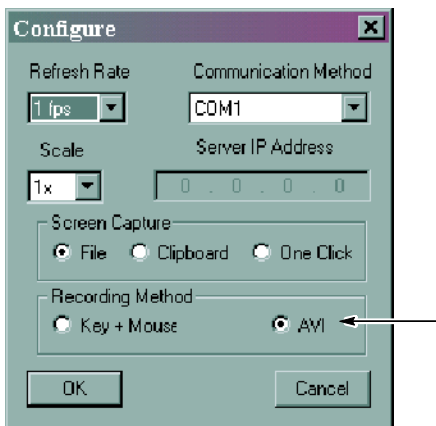

Figure 3-9: Setting the record method to AVI
1. To specify the recording method, click the wrench icon (🔧). This displays the Configure window shown in Figure 3-9.